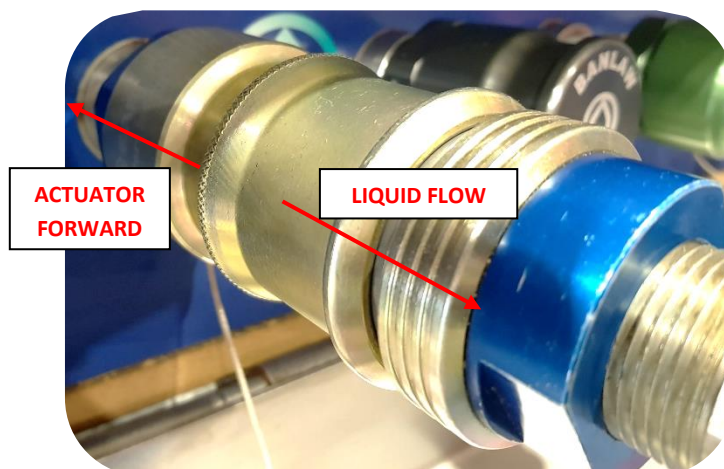

Figure 9 - Coupling and Receiver Connected
7. Once fully engaged with the Receiver, release the Actuator and allow it to return forward under the action of the spring. Push the Actuator to ensure it is fully forward – refer Figure 9 – to ensure the ball lock mechanism is engaged.